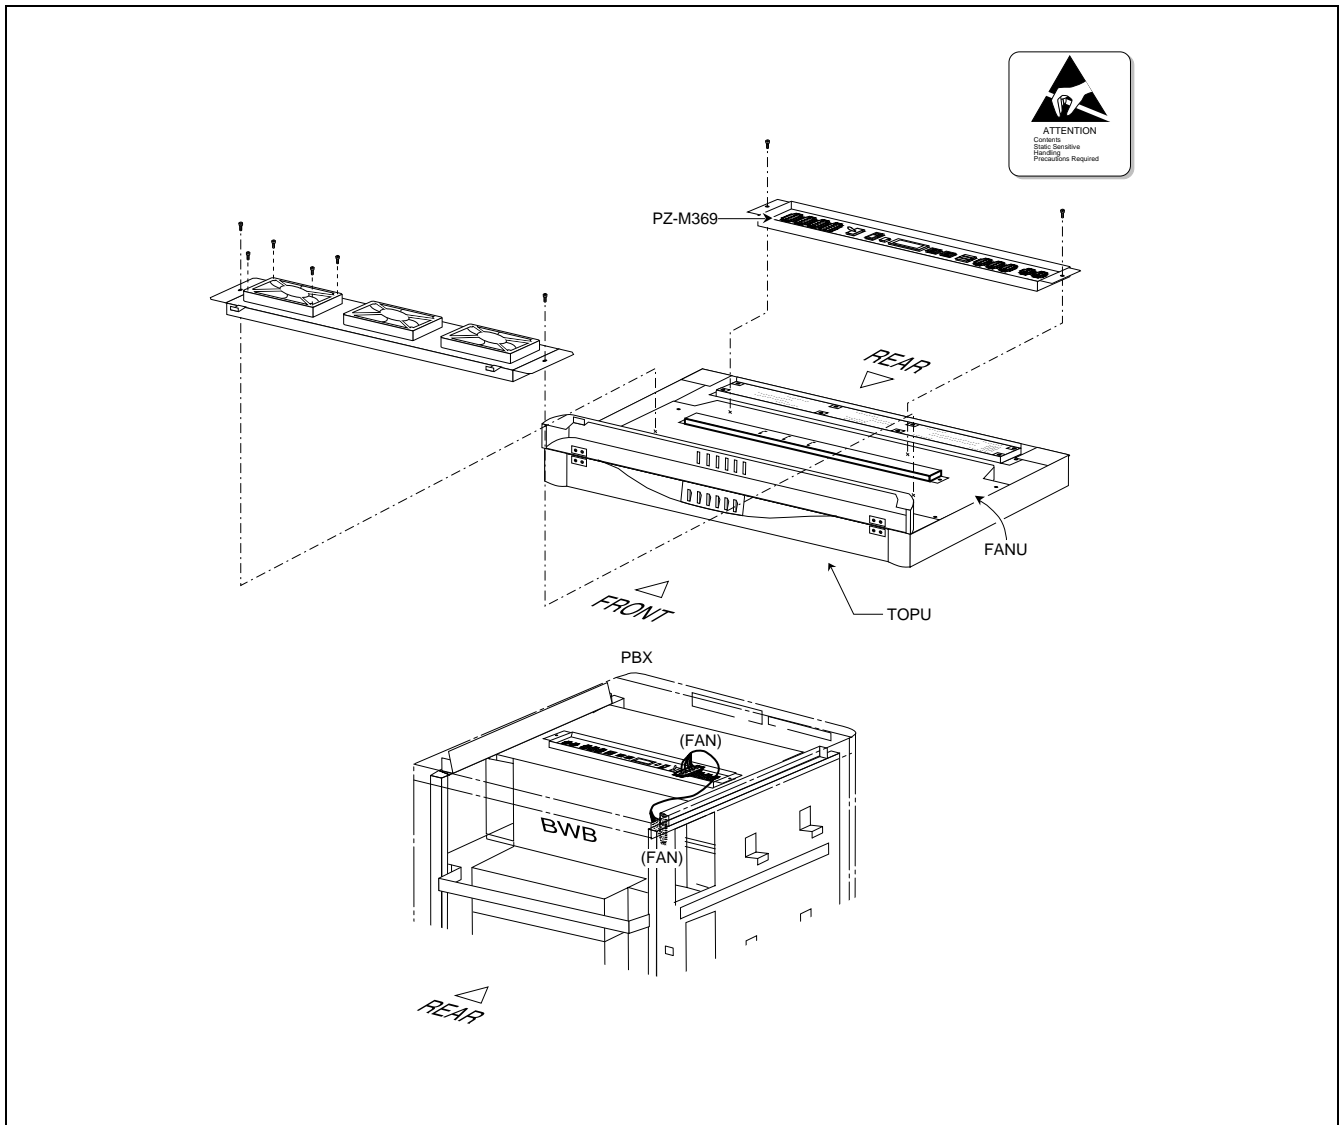

Figure 4-19 How to Replace FANU (Fans on TOPU)
STEP 5 Remove the four screws fastening the fan to be replaced. Refer to Figure 4-19.